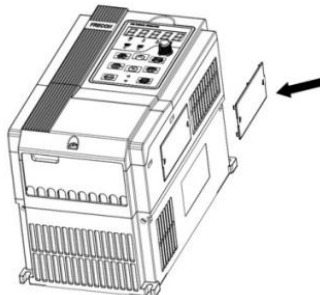

Fig.3-8 Dust cover installation and removal
a. Install dust cover: The dust cover shown in Fig3-8 parallel to the housing assembly (No cock around is installed).